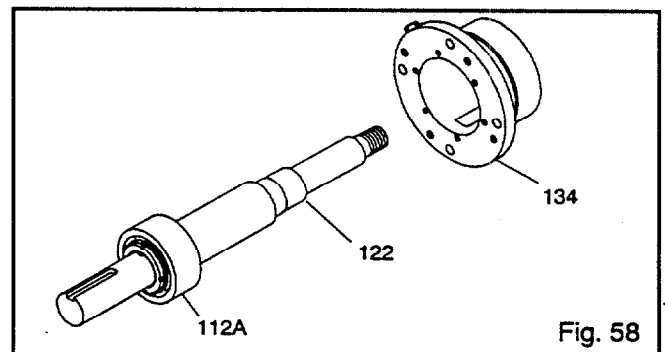

Fig. 58
9. Remove bearing housing (134) from shaft (122) with bearings (112A) (Fig. 58).